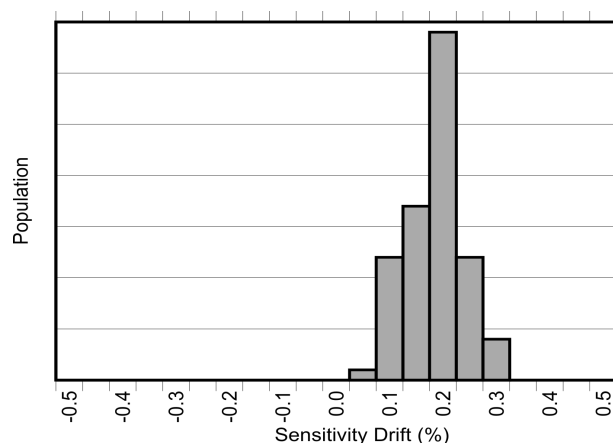
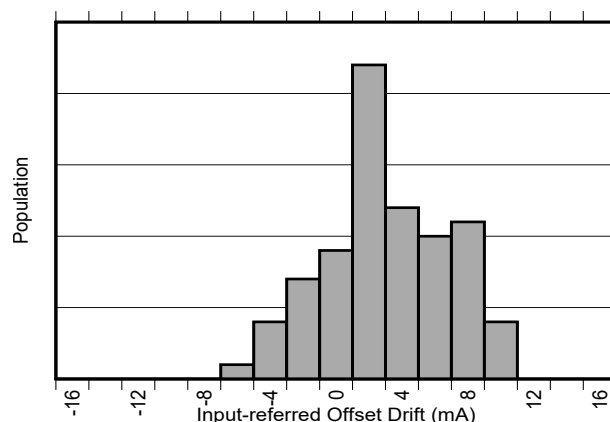

Figure 8-2. Sensitivity Error Drift After AEC-Q100 High Temperature Operating Life Stress Test
Figure 8-3. Input-Referred Offset Drift After AEC-Q100 High Temperature Operating Life Stress Test
In addition to large thermal drift, typical magnetic current sensors suffer an additional 2% to 3% drift in sensitivity due to aging over the lifetime of the device. The same proprietary compensation techniques used in the TMCS1133 to reduce temperature drift are also used to greatly reduce lifetime drift due to aging from stress and environmental conditions especially at high operating temperatures. As shown in the Electrical Characteristics, the TMCS1133 has industry leading lifetime sensitivity drift realized after Highly Accelerated Stress Tests (HAST) at 130°C and 85% relative humidity (RH) during standard three lot AEC-Q100 qualifications. Low sensitivity and offset drift within the bounds specified in the Electrical Characteristics are also observed after 1000 hour, 125°C high temperature operating life stress tests are performed as prescribed by AEC-Q100 qualifications. These tests mimic typical device lifetime operation, and show device performance variation due to aging is vastly improved compared with typical magnetic current sensors. Figure 8-2 and Figure 8-3 show the sensitivity and offset drift after a 1000 hour, 125°C high temperature operating life stress test as specified by AEC-Q100. Device operational performance varies over the lifetime of the device. This test mimics typical device lifetime operations and shows the likelihood of the device vastly improving performance compared to typical magnetic sensors.